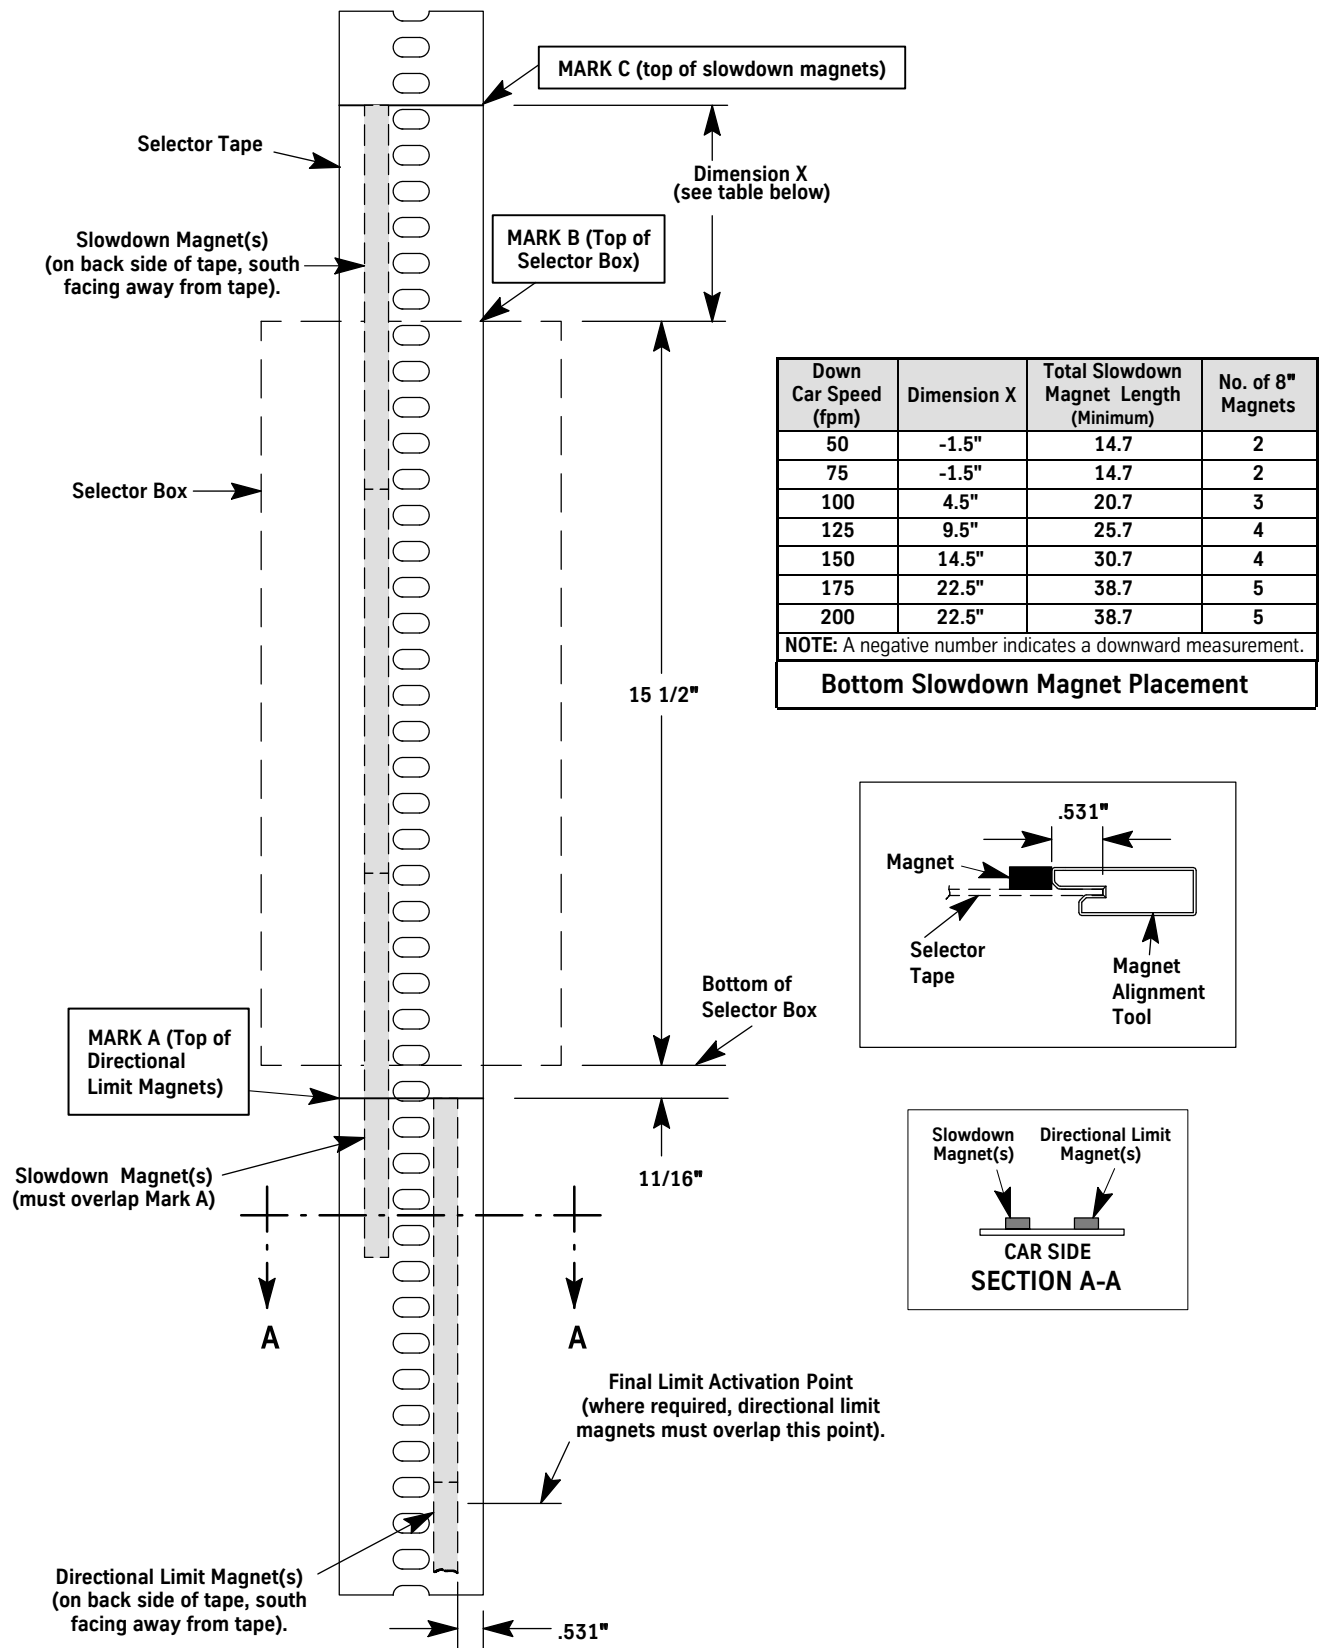

Figure 21 - Bottom Slowdown and Directional Limit Magnets (viewed from car side)
2. From the bottom of the selector box, measure down 11/16" and mark the tape with a marker (this is Mark A). See Figure 21 on page 37 for all steps in the bottom magnet placement procedures.